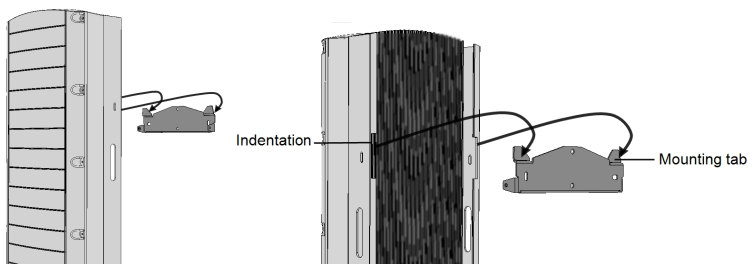

Figure 9: Hanging the inverter on the bracket
- Ensure that the flat edge of the bracket is at the bottom, as in *Figure 9*.
5. Hang the inverter on the bracket (see *Figure 9*): Lift the inverter from the sides, or hold it at the top and bottom of the inverter to lift the unit into place.
7. Insert the two supplied screws through the outer heat sink fins on both sides of the inverter and into the bracket (see *Figure 9*). Tighten the screws with a torque of 4.0